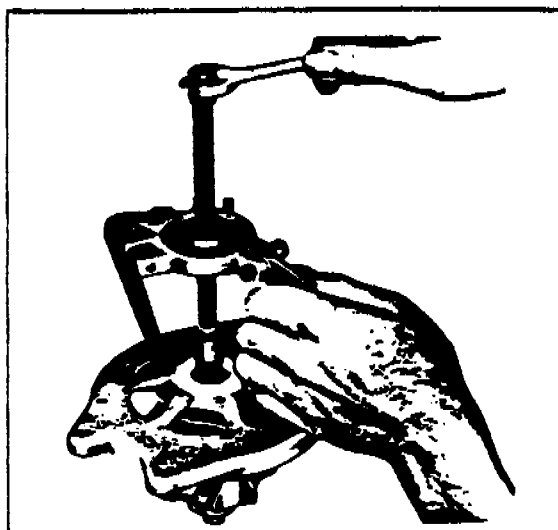
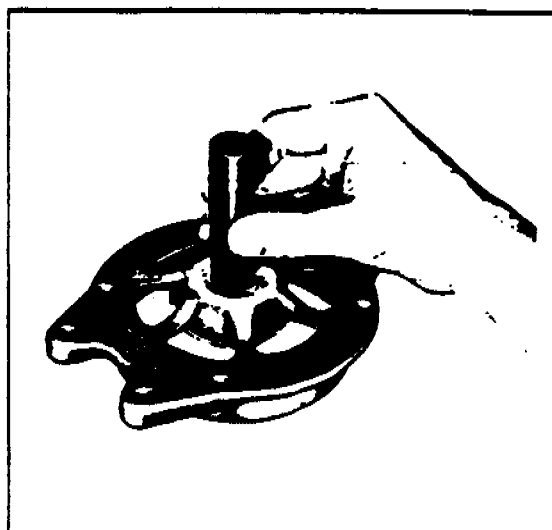

FIGURE 9-27e. REMOVAL OF DRIVE
FIGURE 9-27f. REMOVAL OF END
f. To remove the drive end head from the rotor shaft, use a puller that grips on the bearing retainer plate as shown in Figure 9-27e. Do not attempt to remove by supporting the end head and pressing on the shaft, as this may result in distortion of the end head or stripping of the retainer plate screws. Remove the three retainer plate screws and press the bearing out of the end head. (Refer to Figure 9-27f.)